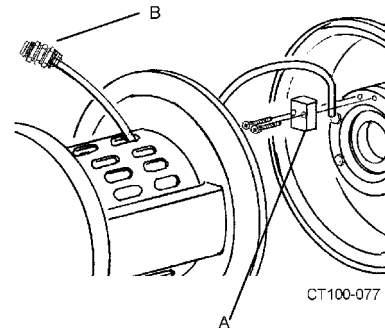

Figure 10 - Installing the Water Cascade System
10. If your system has a water cascade, thread water cascade hose through the guard and install cascade block on backplate. (Figure 10, items A and B).